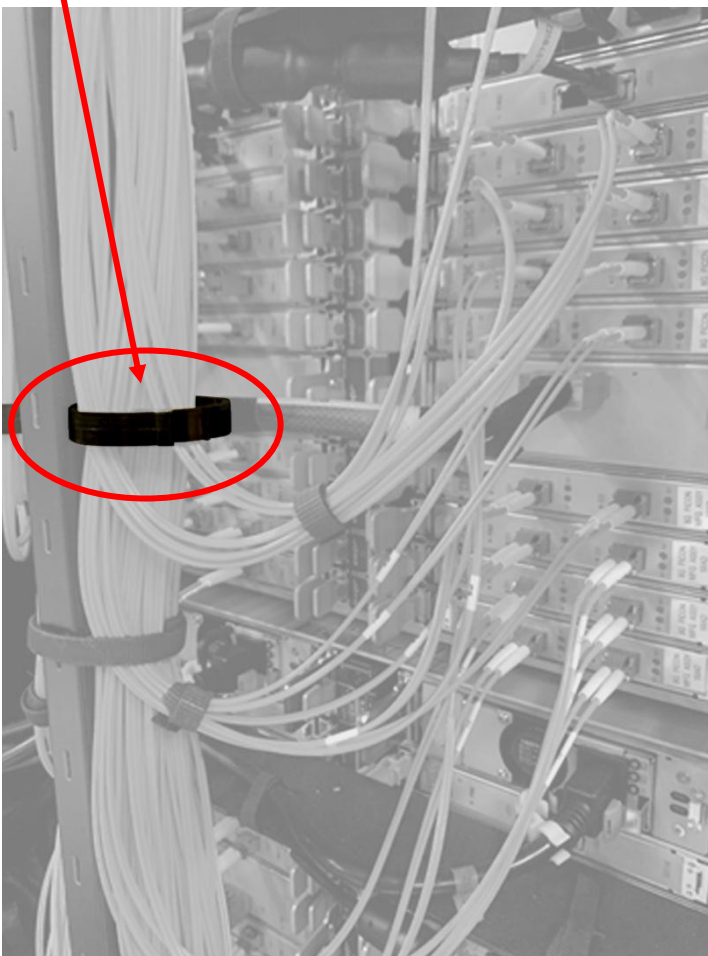

Figure 11: Spine Clips for Customer Fiber
- Spine Hardware Clip for Customer Fiber only (Figure 11)